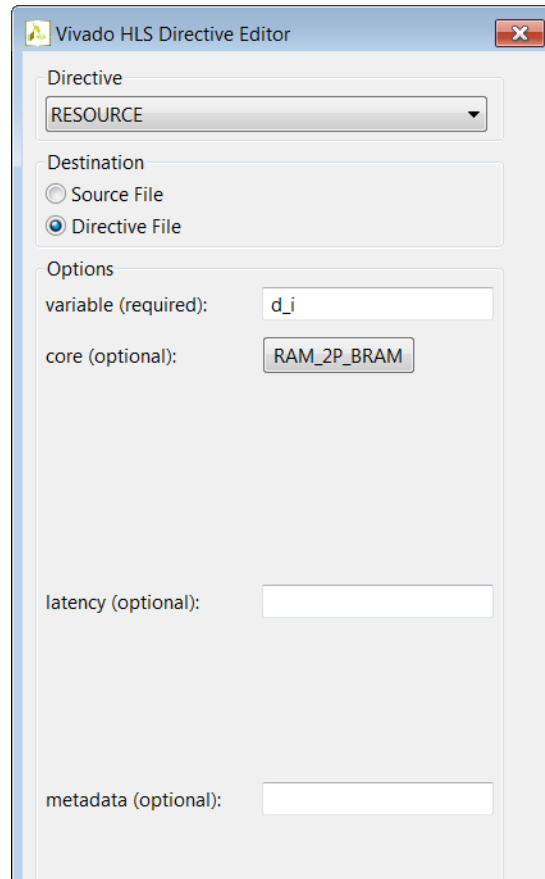

Figure 4-19: Directives Editor for Specifying a Dual-port RAM
- d. Verify that the settings in the Directives Editor dialog box are as shown in Figure 4-19 and click **OK**.